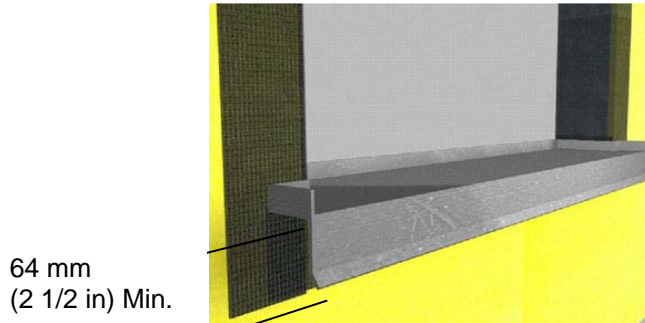

Figure 6
- a. Install a watertight pan flashing at all sill locations - Figure 6.
- c. The flashing shall extend a minimum of 64 mm (2 1/2 in) down over the face of the Outsulation MD System - Figure 6.